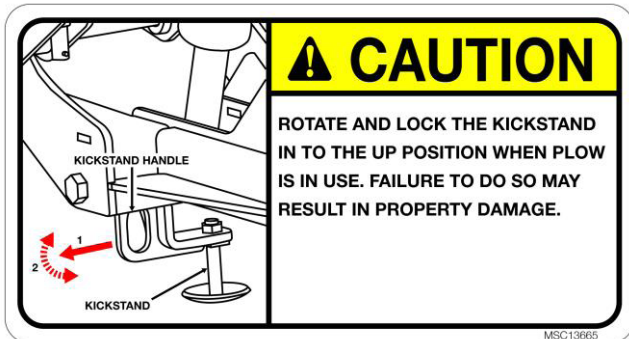

Figure 12. Kickstand Operation MSC13665
1. Locate and adjust the plow Kickstand to the lowered position by pulling the Kickstand Handle straight outward while rotating the Kickstand counter-clockwise, downward until it locks. See Figure 12.